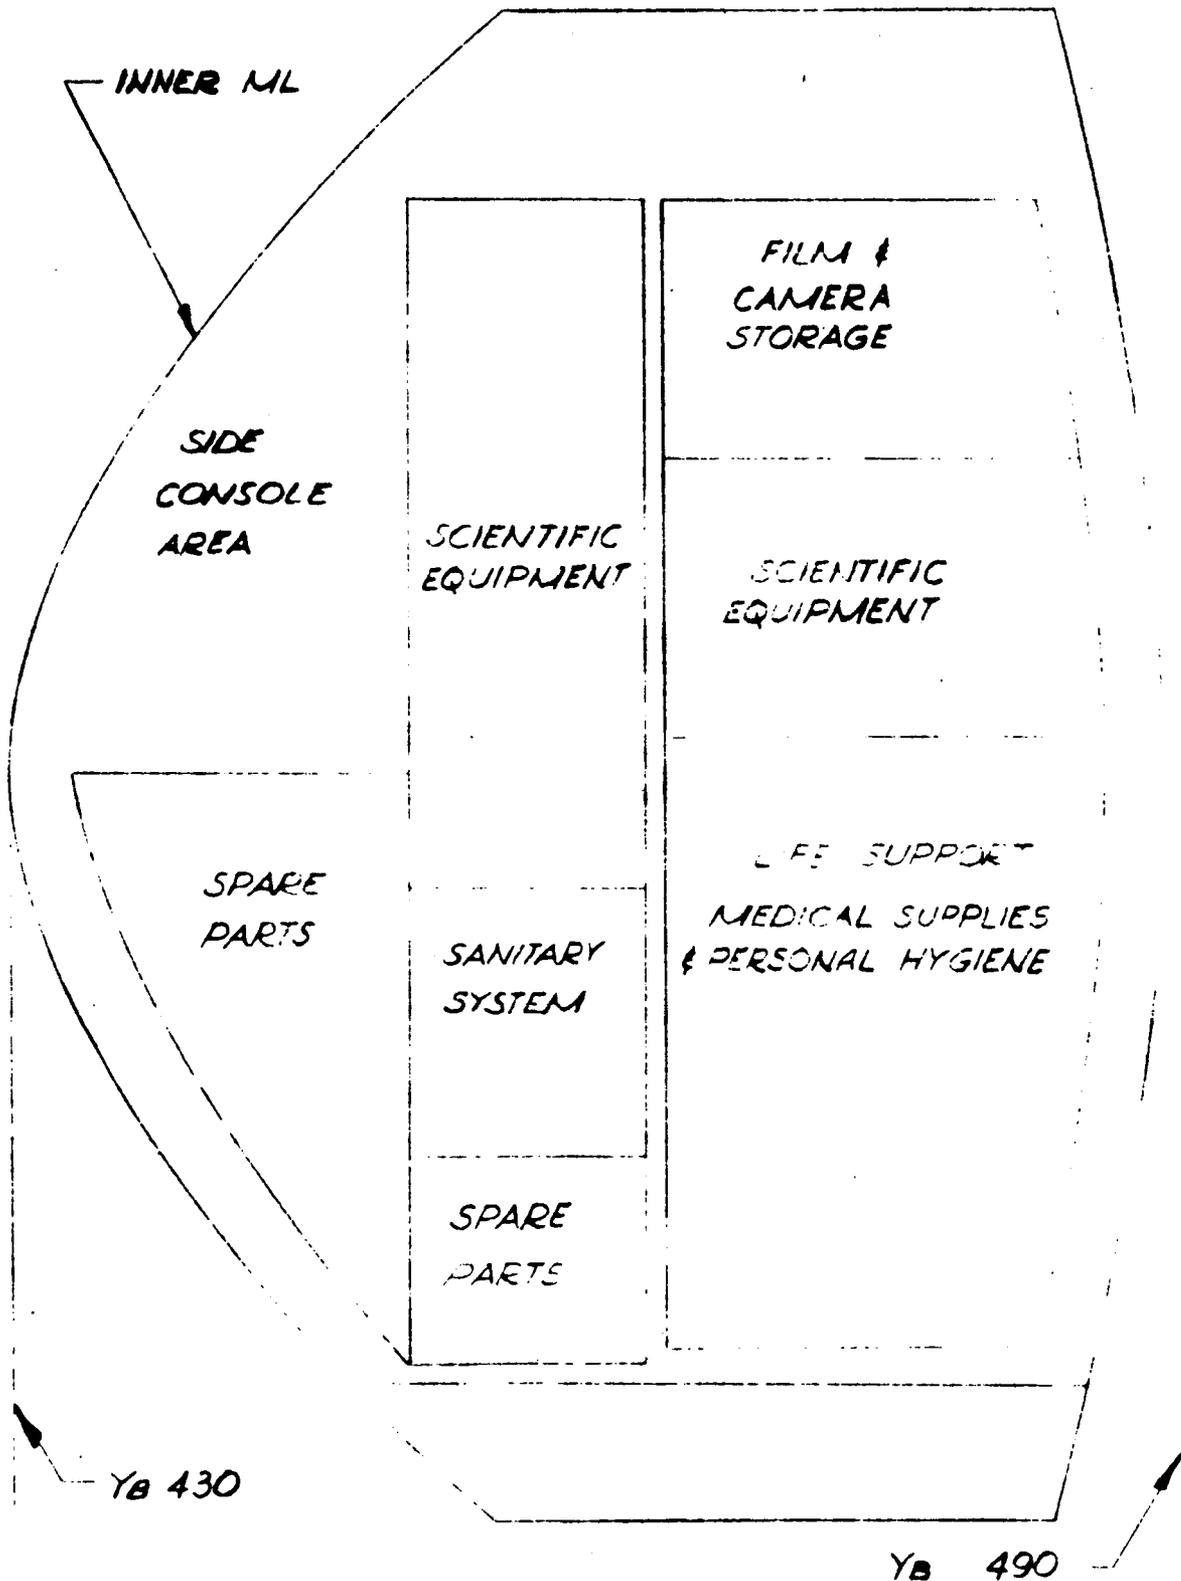

Figure 5. Right Hand Equipment Bay
4. Right Hand Equipment Bay (figure 5)